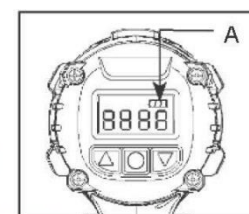

Fig. 3
1. The tool is applied with the battery capacity indicator (A) for easy view. (Fig. 3)